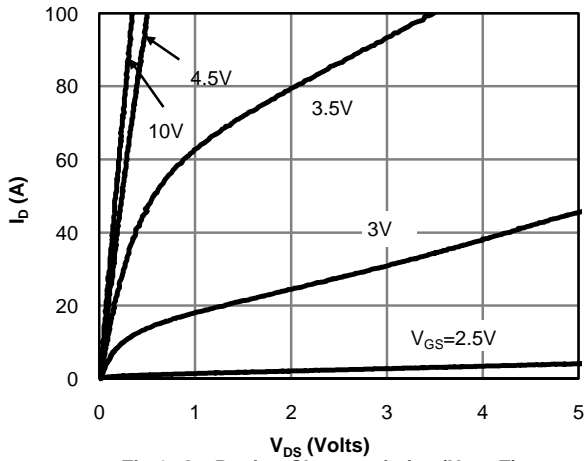

Fig 1: On-Region Characteristics (Note E)
E. The static characteristics in Figures 1 to 6 are obtained using $<300\mu\text{s}$ pulses, duty cycle 0.5% max.